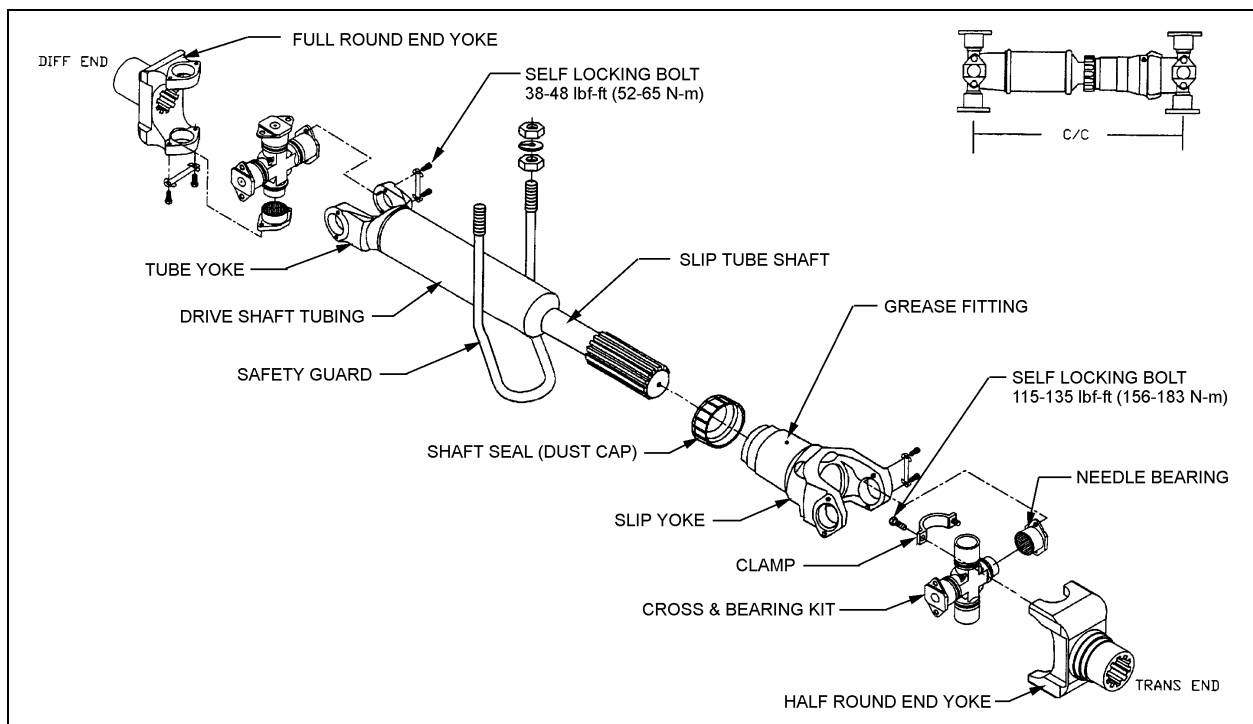

FIGURE 1: PROPELLER SHAFT ASSEMBLY
| FIGURE 1: PROPELLER SHAFT ASSEMBLY | 2 |
The propeller shaft transmits power from the transmission to the differential (Fig. 1). Refer to paragraph "6. SPECIFICATIONS" at the end of this section for propeller shaft length. The propeller shaft is "Dana 1810" type with tubular shafts. It is provided with two heavy-duty universal joints (Fig. 1).
- Screw bolts to the specified torque (Fig. 1).